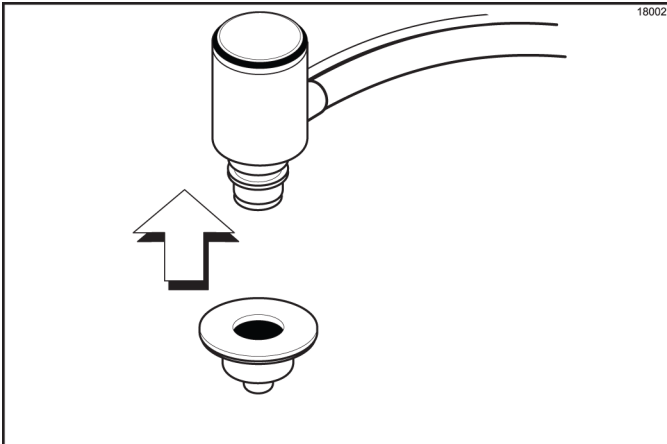

Figure 6-60
2. Install the syrup sampler to the fitting on one of the syrup lines. (See Figure 6-60.)